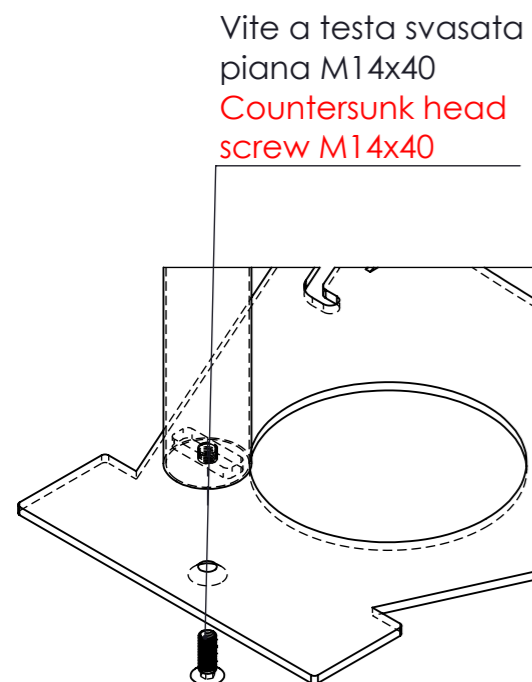

FIG. 1
1. Secure the post to the base by fully tightening the M14x40 countersunk screw (see Figure 1).
Insert the strap into the slot on the winch and slide it in a few centimetres (Figure 1).